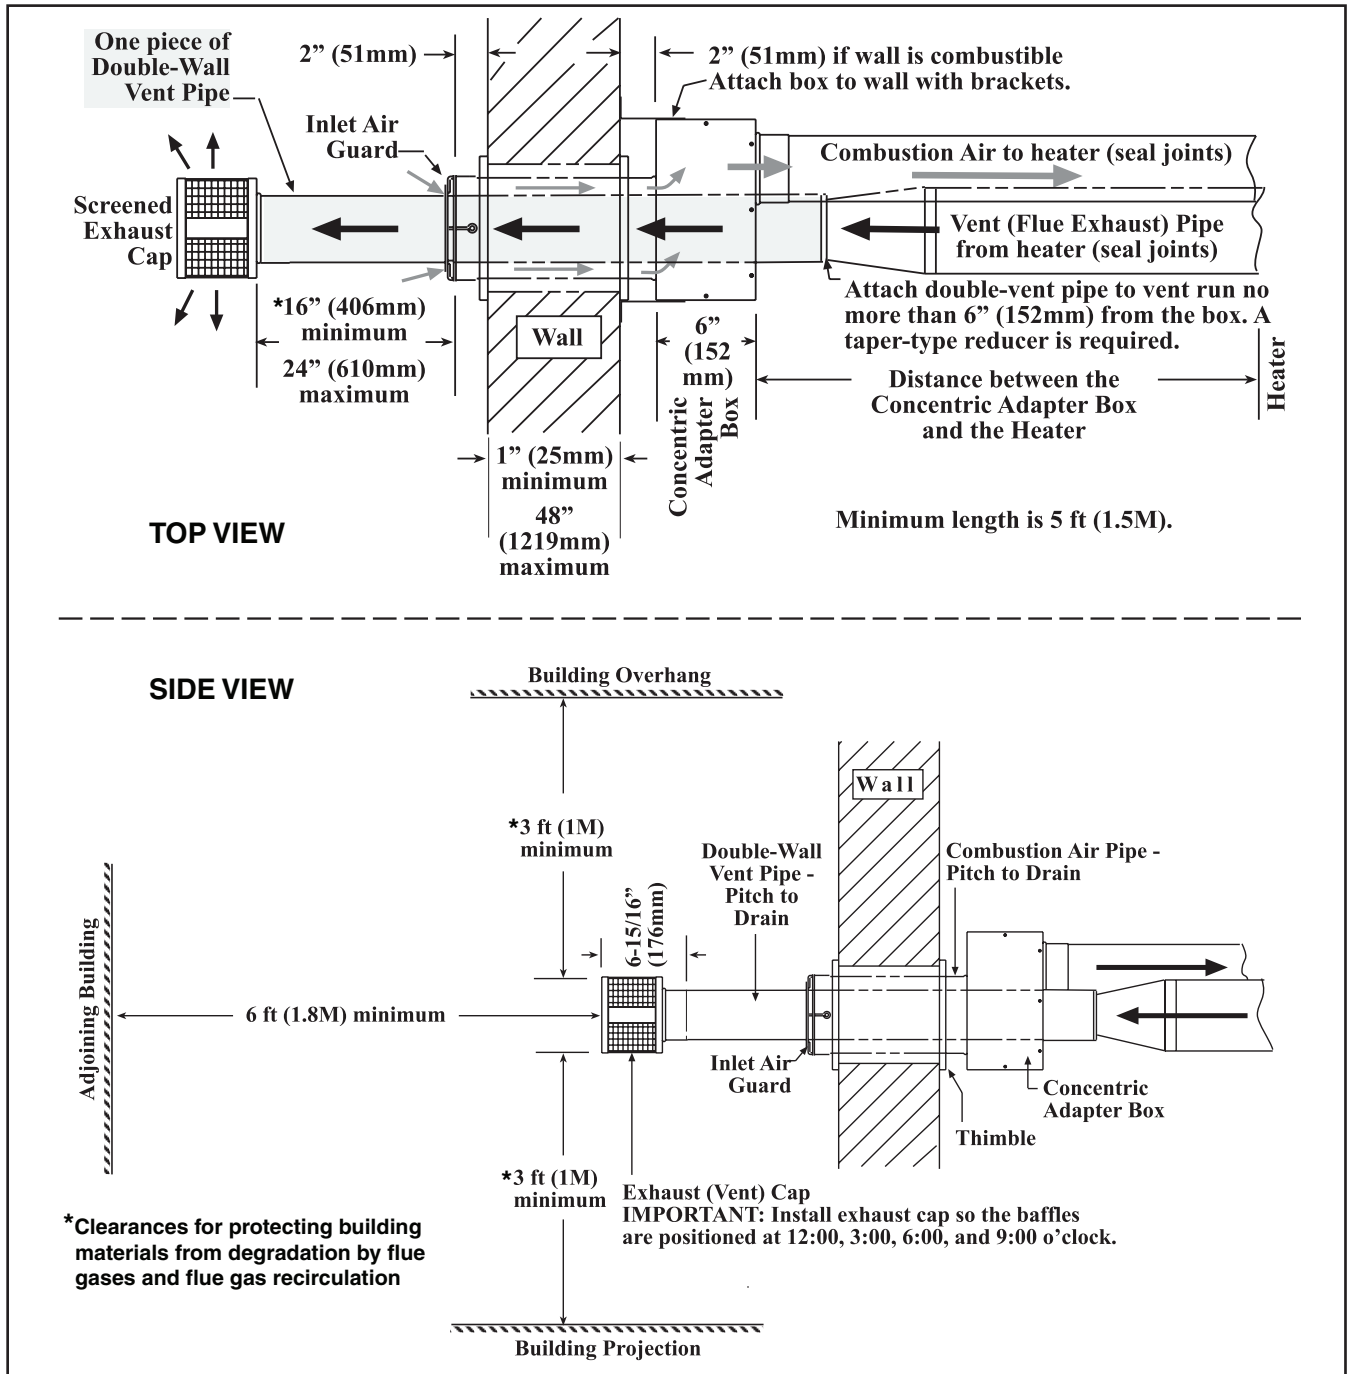

Figure 19. Option CC6 Installation
5. Connect outside section of combustion air pipe to concentric adapter box (see Figure 19):
- (1) Bracket length from box to wall
- (2) Plus wall thickness
- (3) Plus 2 inches (51 mm) beyond wall
6. Secure concentric adapter box to wall (see Figure 19):
- a. Position inlet guard over end of combustion air pipe in accordance with Figure 19.
- a. Refer to Figure 19 to determine lengths of each pipe segment and to calculate total length required. Transition to single-wall or Category III vent pipe run must be made maximum of 6 inches (152 mm) from heater side of box.
- d. Ensure that exhaust cap is aligned so that its baffle strips are positioned on horizontal and vertical center lines (see Figure 19). Install cap in accordance with Figure 7.
10. Verify compliance with Figure 19 and with all specific venting requirements listed above.